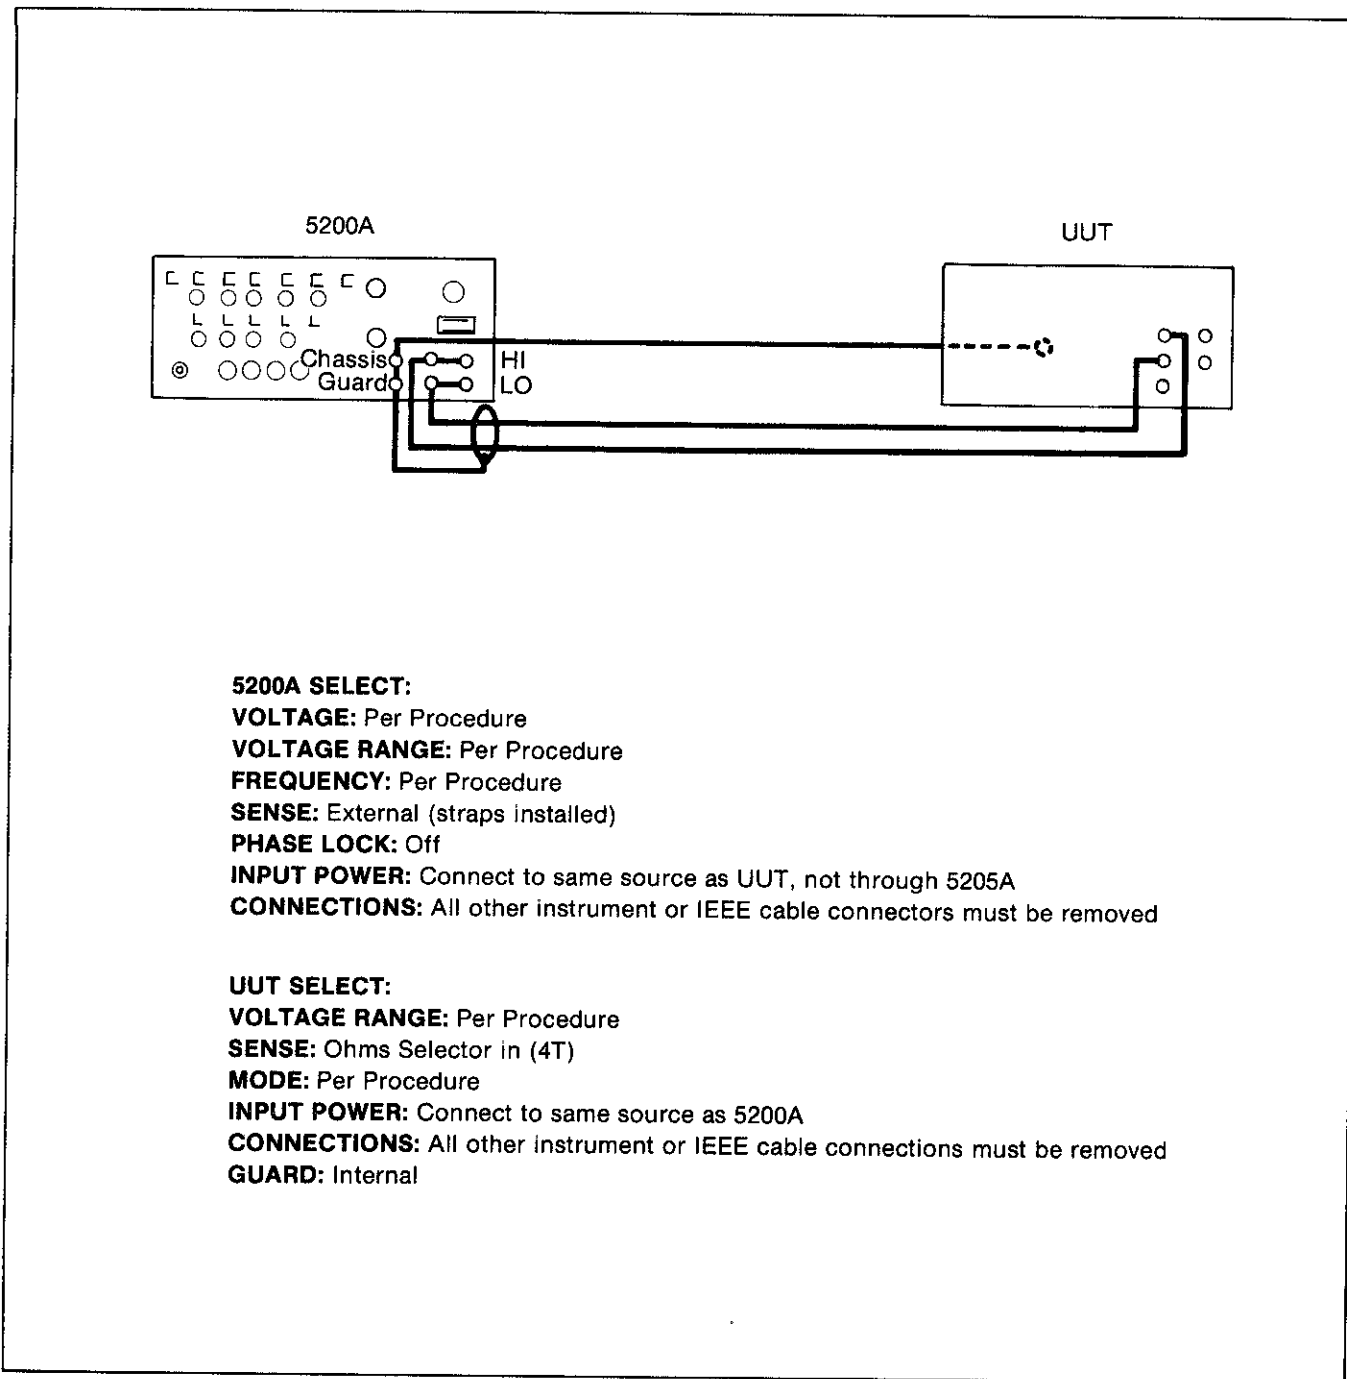

Figure 4-8. Equipment Set-Up D
16. Connect the 5200A to the UUT input terminals as shown in Figure 4-8.